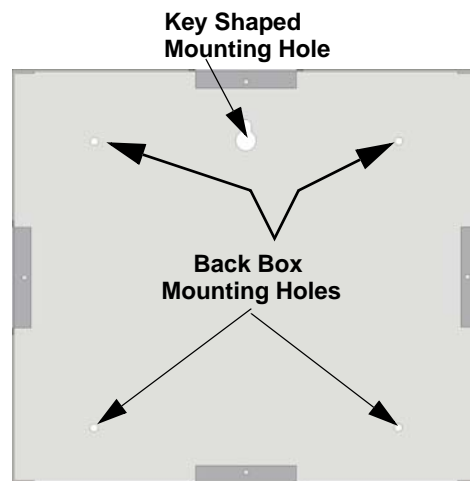

Figure 4-12 Back Box Surface Mount Holes
- To properly mount the back box, insert a single screw into the key shaped mounting hole. Do not tighten all the way. See Figure 4-12. Place a level on top of the back box, with the back box level insert the rest of the mounting screws.